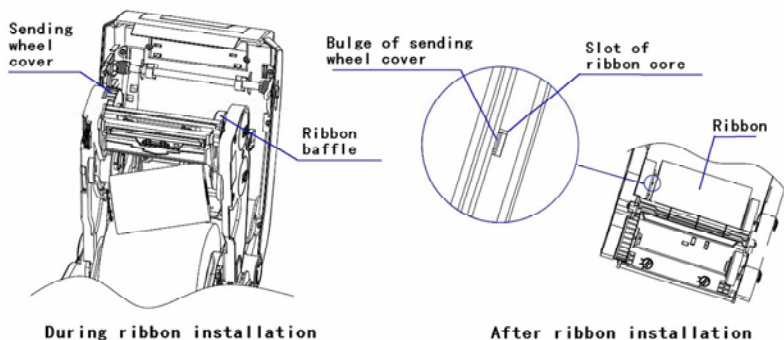
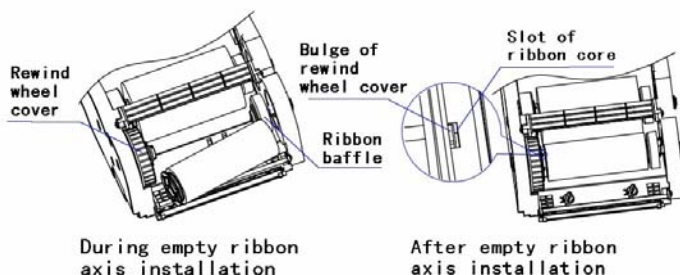

Figure 2.5.2
Figure 2.5.3
- 2) Push one end of the installed ribbon module into ribbon baffle and the other end into the ribbon sending wheel, rotate the sending wheel cover, and install the bulge of sending wheel cover into the slot of ribbon core to end the installation of ribbon module (see figure 2.5.2); install the empty ribbon axis module to ribbon rewind wheel module according to the same method (see figure 2.5.3);